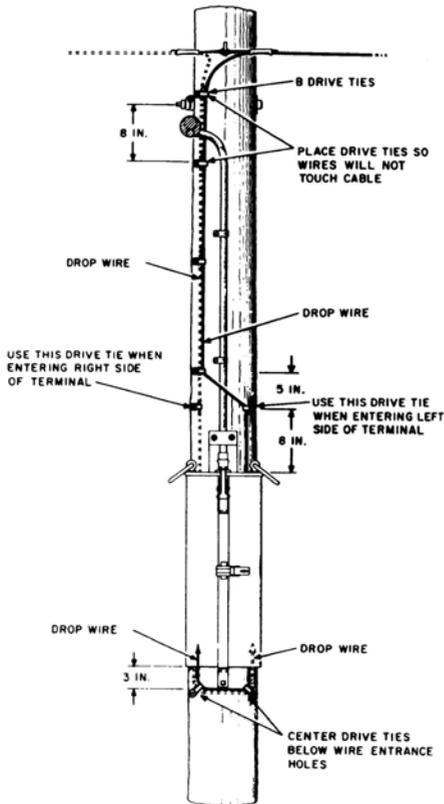

Fig. 14—Running Drop Wire at Cross-Connecting Terminal
- (1) Place $\text{\textcircled{B}}$ drive ties on the pole as shown in Fig. 14